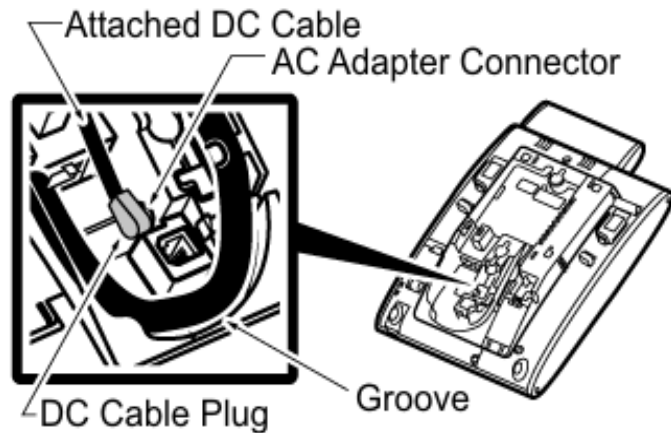

Figure 6-51 Attach the DC Power Cable
8. Plug in the DC power cable and gently press the cable into the grooved cutout (refer to Figure 6-51 Attach the DC Power Cable).